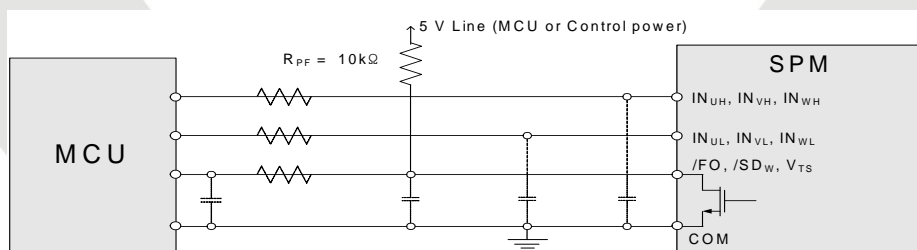

Figure 16. Recommended MCU I/O Interface Circuit
13. /FO is open-drain type. This signal line should be pulled up to the positive side of the MCU or control power supply with a resistor that makes  $I_{FO}$  up to 2 mA. Please refer to Figure 16.